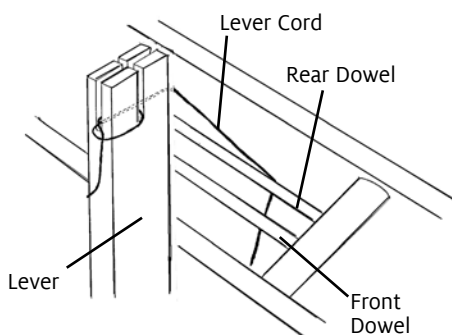
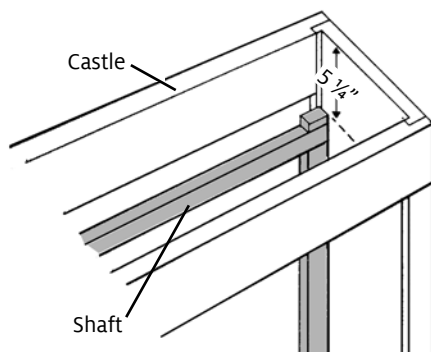

FIGURE 4: LEVERS
FIGURE 5: SHAFTS/CASTLE
7. Insert the shafts back into the castle from the bottom of the castle. Put the shaft levers in the up position. Attach the shaft lever cords to the levers (see Figure 4). Note: you can determine which lever you want tied up to the first shaft (i.e. the right side or the left side) at this time. On 4 shaft looms the cords from the first and second shafts go over the front small dowel in the top of the castle behind the levers. The cords from the third and fourth shafts go over the rear small dowel. Similarly on 8 shaft looms the first and second cords go over the front dowel, the third and fourth go over the second dowel, the fifth and sixth go over the third dowel, and the seventh and eighth go over the rear dowel. Adjust the shafts to a height of  $5\frac{1}{4}$ " below the top of the castle. This measurement is from the top of the harness side to the top of the castle (see Figure 5).